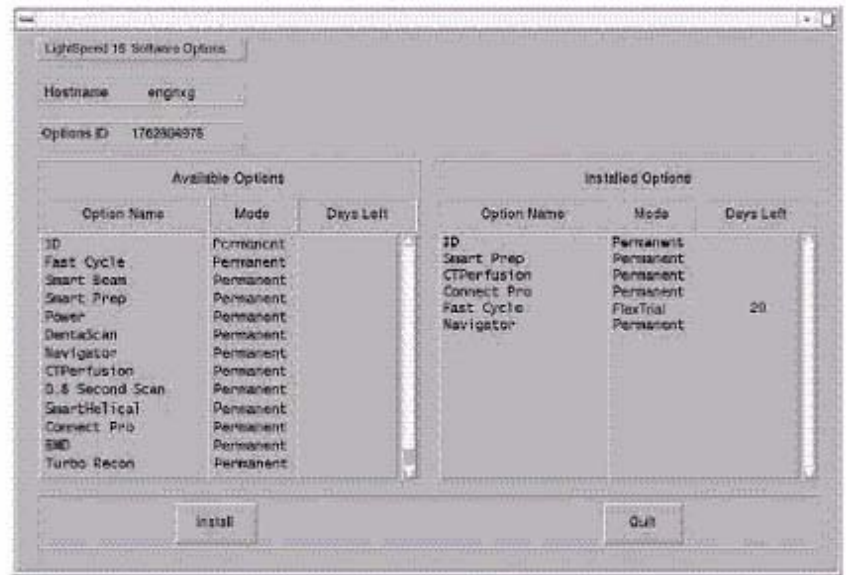

Figure 5-15 Software Options screen
- 9.) Click OK. Available options appear on the Software Options screen (Figure 5-15).